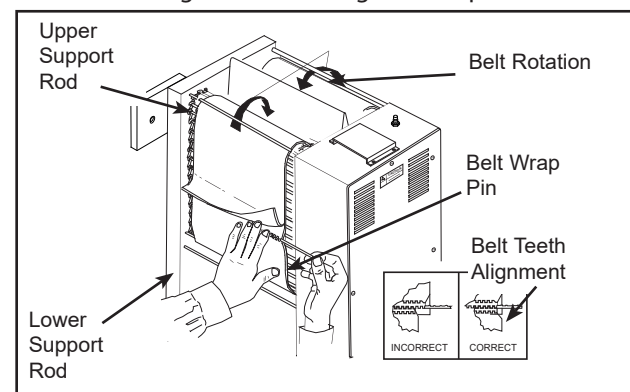

Figure 4 Installing Belt Wrap
7. Install the new Belt Wrap(s) around the Conveyor Belt Chain inside the yellow rods with the "zipper" flap exposed and hanging down (Figure 4).